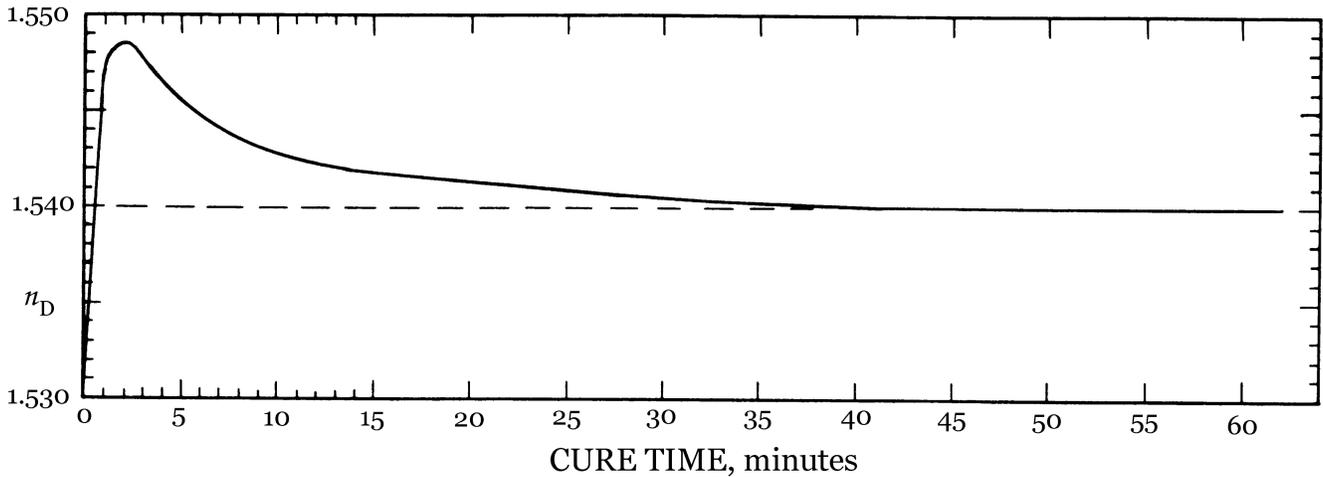

Figure 2.  $n_D$  of Petropoxy 154 as a function of cure time at 135°C
**Cure time.** Curing Petropoxy 154 at 135°C will produce a high strength bond in as little as 5 minutes, and maximum strength is attained in about 10 minutes. However, the refractive index is finalized only after curing for about 45 minutes. Figure 2 illustrates the change in  $n_D$  as a function of cure time. After 3 hours cure,  $n_D$  will completely stabilize at about 0.0004 below that obtained for 45 minutes cure.